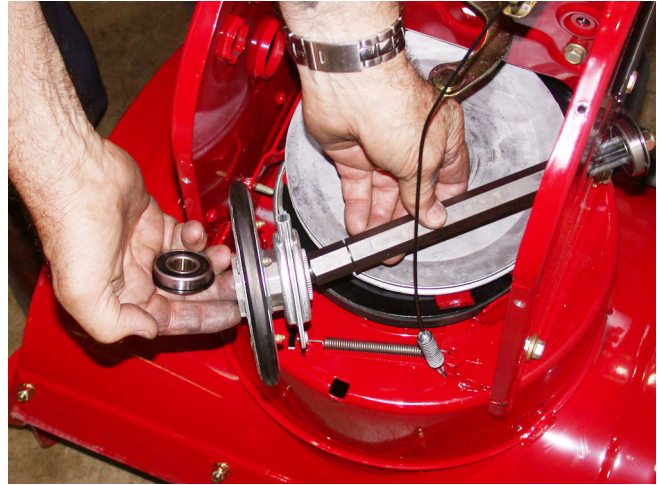

Figure 10.5
- 10.5. Maneuver the shaft partially through the wheel drive frame then tilt the assembly forward to free it from the housing. See Figure 10.5.